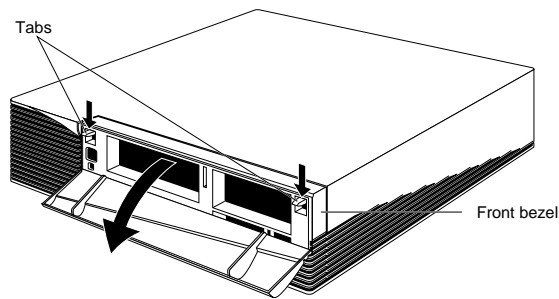

Figure 8-2 Removing the Front Bezel From the Indigo² Chassis
- Press down on the tabs on each side of the bezel, as shown in Figure 8-2.